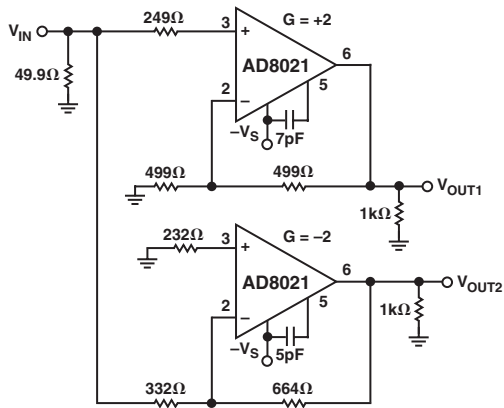
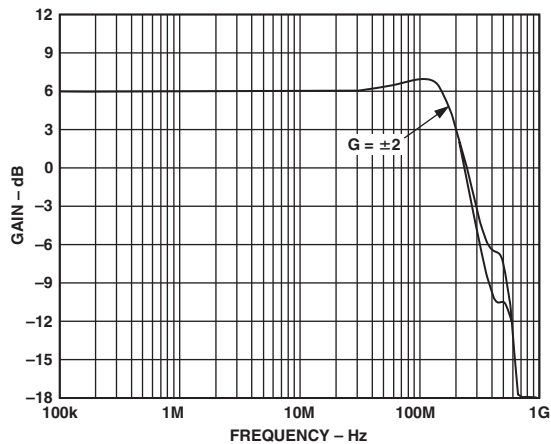

Figure 10. Differential Amplifier
Figure12. AC Response of Two Dissimilarly Compensated AD8021 Op Amps (Figure 11) Configured for Gains of +2 and -2. Note the Close Gain Match.
3. Match bandwidth in gain blocks with different noise gains, such as when designing differential amplifiers (as shown in Figure 10).
Figure 10 illustrates an inverter-follower driver circuit operating at a gain of 2, using individually compensated AD8021s. The values of feedback and load resistors were selected to provide a total load of less than 1 kΩ, and the equivalent resistances seen at each op amp’s inputs were matched to minimize offset voltage and drift. Figure 12 is a plot of the resulting ac responses of driver halves.